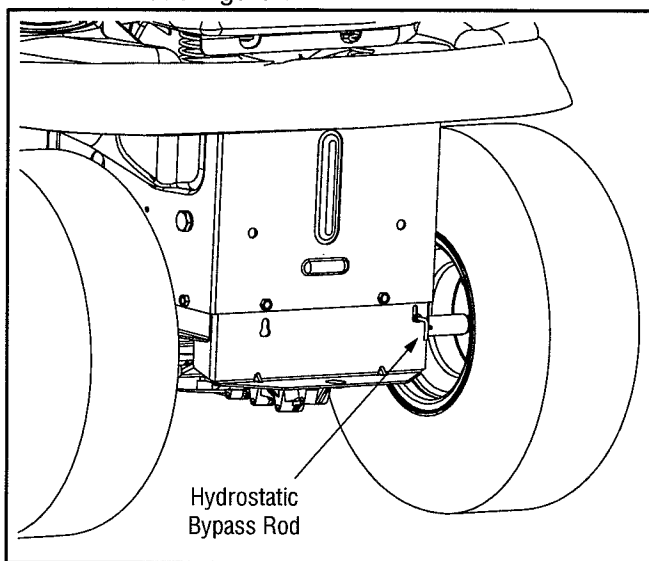

Figure 11
- Locate the hydrostatic bypass rod in the rear of the tractor. See Figure 11.